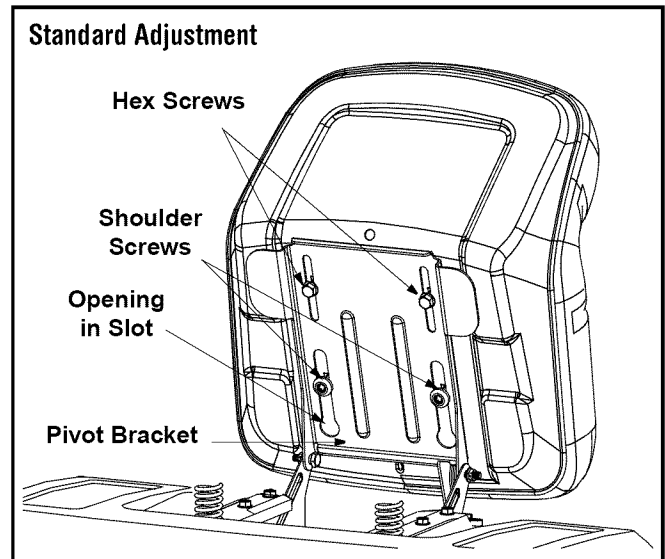
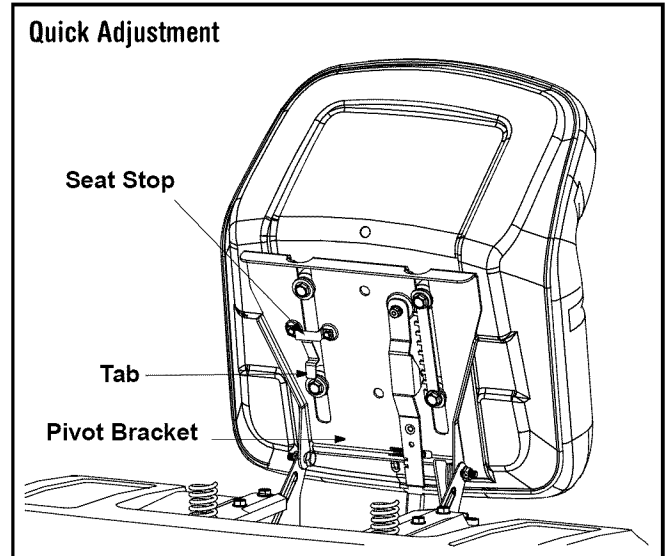
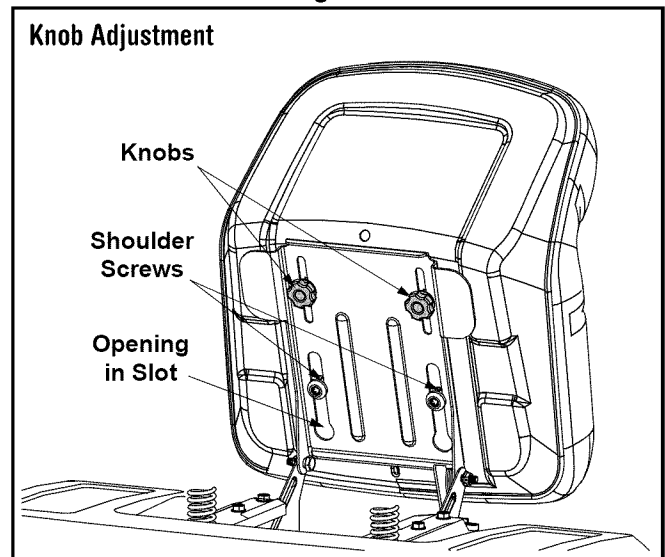

Figure 3
Figure 4
Figure 5
Refer to Figure 3, Figure 4 and Figure 5 to identify which your tractor's seat style and follow applicable instructions below.
1. Position the shoulder screws (found on the base of the seat) inside the slot openings in the seat pivot bracket. Figure 3.
3. Select desired position for the seat, and secure with the two hex screws removed earlier. See Figure 3.
**NOTE:** If your seat was shipped mounted backwards on the seat pivot bracket, pull out the tab found on the seat stop and hold it open while sliding the seat off the seat pivot bracket. See Figure 4.
2. Slide seat in until front seat spacer engages the seat stop. See Figure 4.
1. Position the shoulder screws (found on the base of the seat) inside the slot openings in the seat pivot bracket. Figure 5.
3. Select desired position for the seat, and secure with the two knobs removed earlier. See Figure 5.